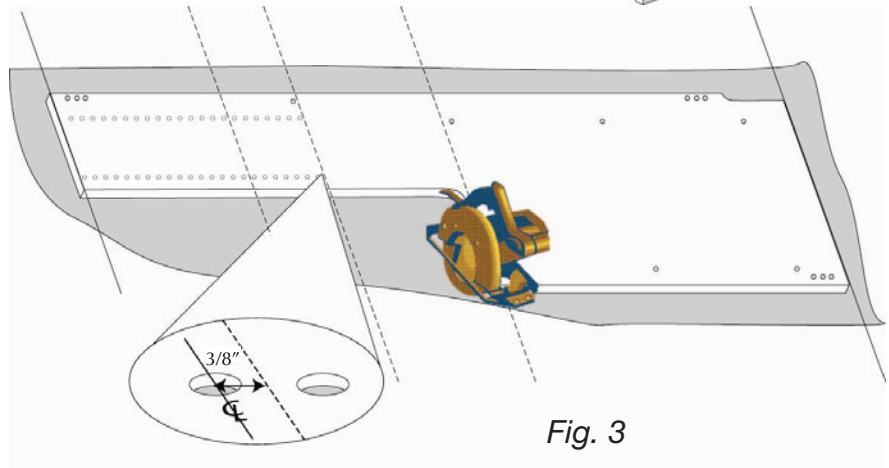

Fig. 3
Additionally, you must ensure this custom trimmed middle panel is cut to align with the system 32 hole pattern for top and bottom fixed shelves. See close up for Fig. 3 for details.
1. Prepare one or more separating middle vertical panels using a thru-drilled panel. First, trim to fit the upper portion of your vertical panel to match your design for shelves or doors (24” or 36” – 8 foot unit only). For example, for 24” hutch doors, measure down from the top of the vertical panel, plus 3/8” below the center of the nearest system hole and mark your cut line. (See Fig. 3.)
14. Fasten the hutch to the closet's wall with the appropriate screws through the top cleat (Fig. 3). (See "Working with Different Wall Types" in Installation Manual for details.)